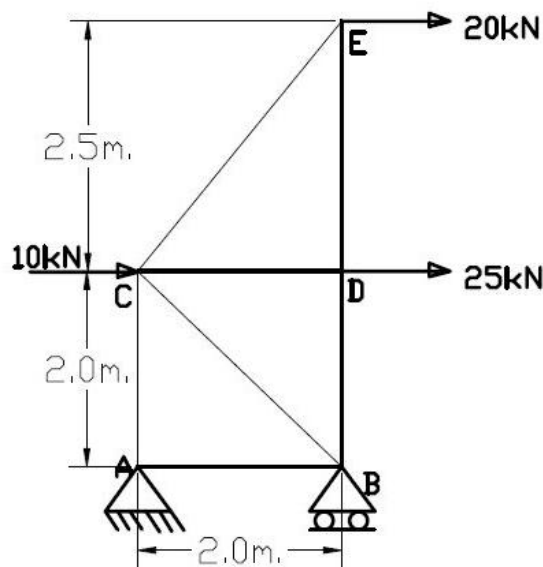

Fig.5
7. (a) Find out the member forces in the truss as shown in Fig. 5 using method of joints. [(CO3)(Analyse/IOCQ)]